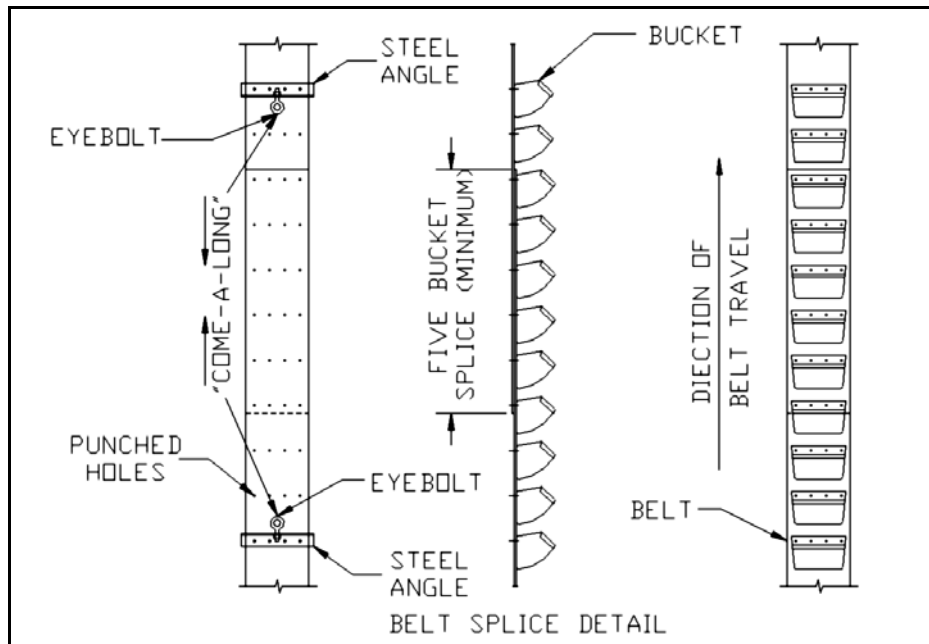

Figure 3.5 Belt Splice
2. Attach a rope or cable to the belt. Fabricate a piece of steel angle to connect the rope to the belt as described in the steps that follow. See also Figure 3.5.